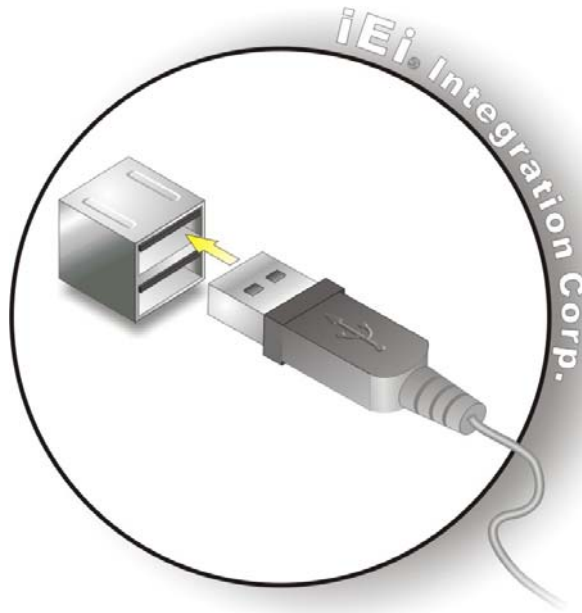

Figure 4-22: USB Connector
Step 2: **Insert a USB 3.0 plug.** Insert the USB 3.0 plug of a device into the USB 3.0 on the external peripheral interface. See Figure 4-22.